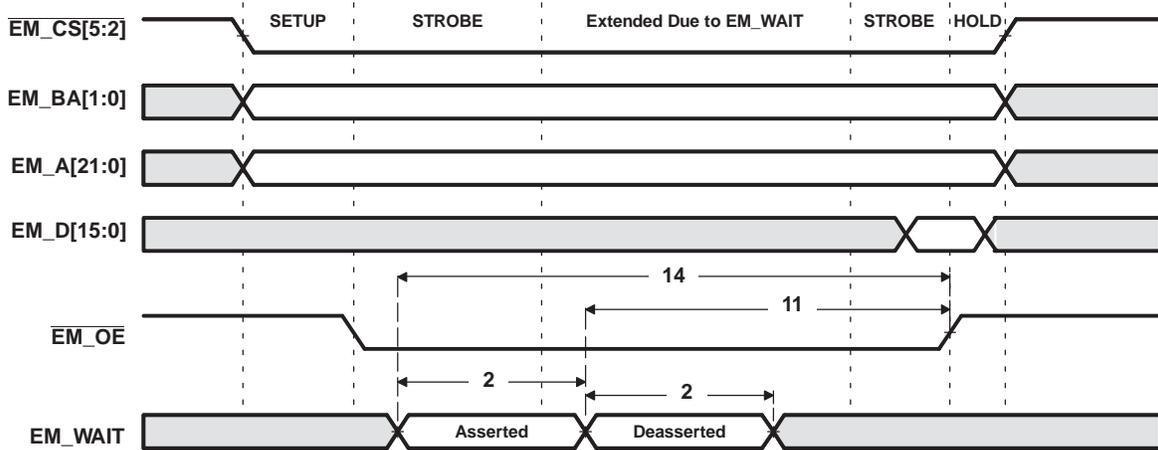
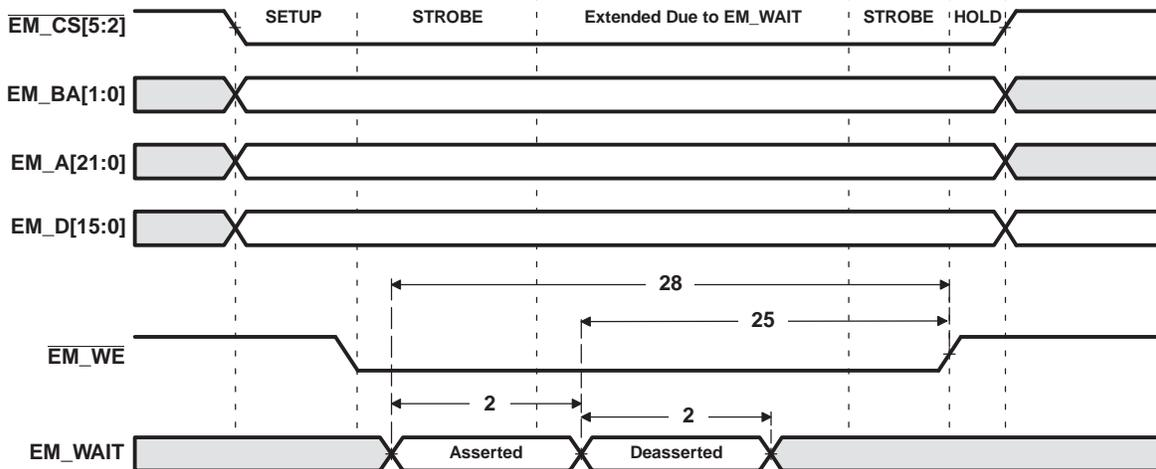

Figure 6-23. $\overline{EM_WAIT}$ Read Timing Requirements
Figure 6-24. EM_WAIT Write Timing Requirements
(1) E = SYSCLK5 period in ns for EMIFA. For example, when running the DSP CPU at 405 MHz, use E = 14.8 ns.
(2) Setup before end of STROBE phase (if no extended wait states are inserted) by which EM_WAIT must be asserted to add extended wait states. Figure 6-23 and Figure 6-24 describe EMIF transactions that include extended wait states inserted during the STROBE phase. However, cycles inserted as part of this extended wait period should not be counted; the 4E requirement is to the start of where the HOLD phase would begin if there were no extended wait cycles.